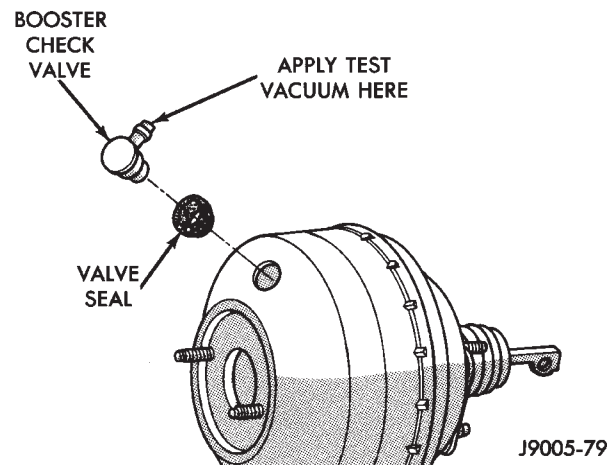

Fig. 1 Vacuum Check Valve And Seal (Typical)
(1) Disconnect vacuum hose from check valve.
(2) Remove check valve and valve seal from booster (Fig. 1).
(4) Apply 15-20 inches vacuum at large end of check valve (Fig. 1).
(5) Vacuum should hold steady. If gauge on pump indicates any vacuum loss, valve is faulty and must be replaced.